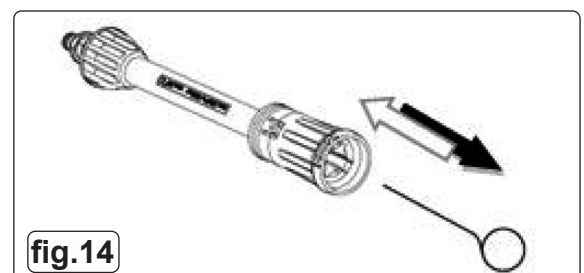

fig.14
7.2. CLEANING THE NOZZLE (FIG.14)